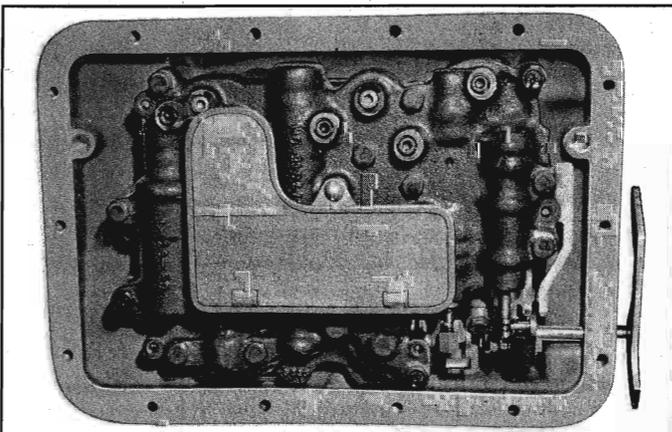

Fig. 6E-9—Valve Body Installed
5. Make an improvised sheet metal strap (see fig. 6E-11), and loosely install with one pan bolt.